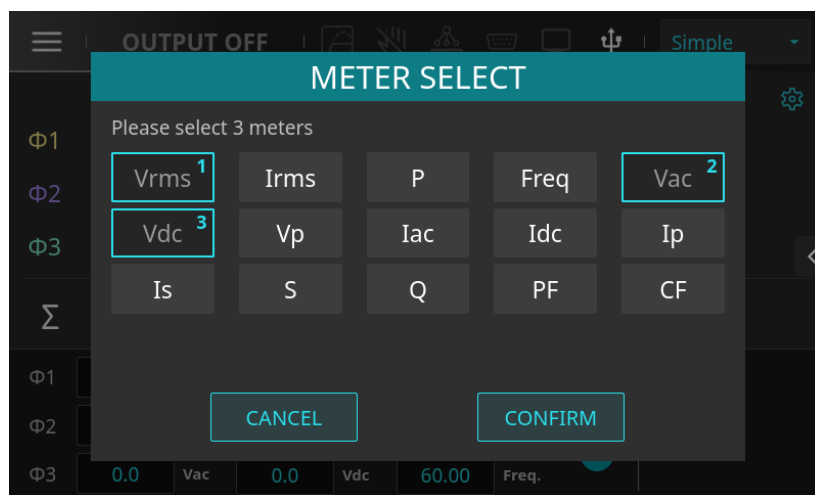

Figure 4-12: Page for selecting measurement parameters “Vac” and “Vdc”
3. Press the desired new parameters “V_{ac}” and “V_{dc}”, as shown in Figure 4-12.